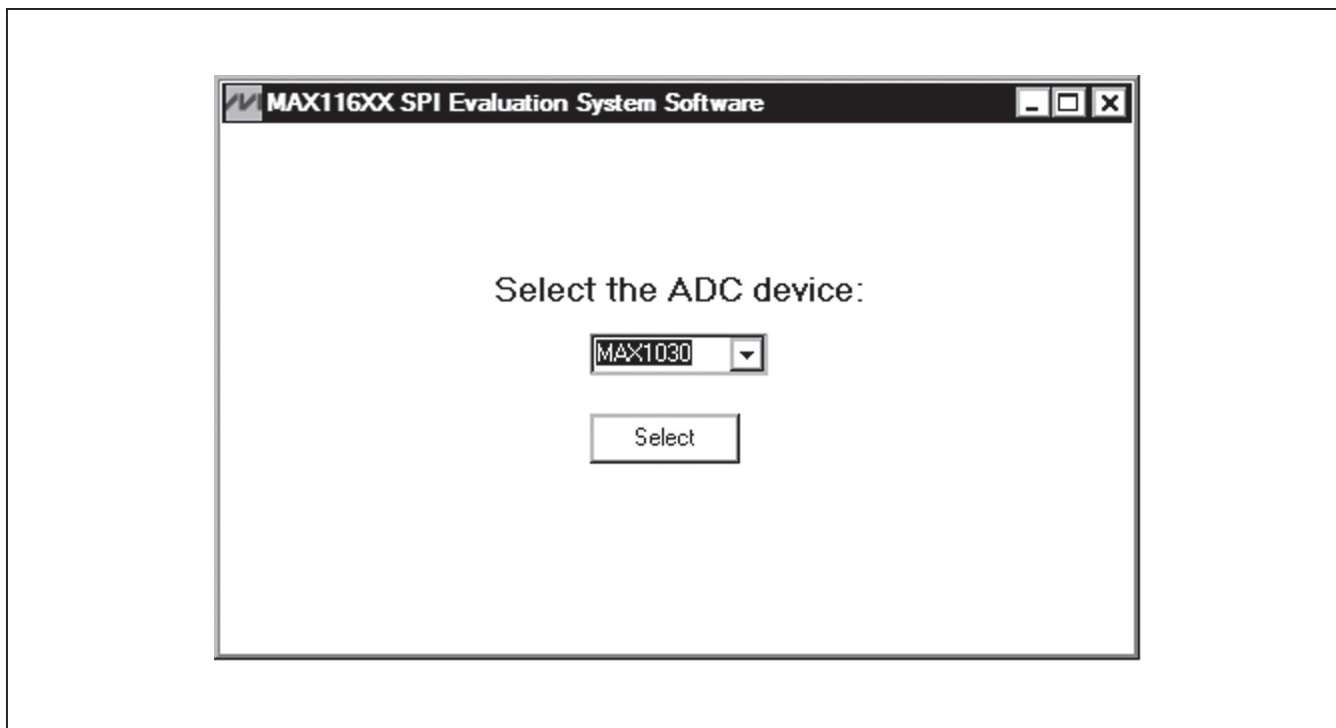

Figure 2. MAX116XX SPI EV System Software Device Selection Window
- 8) Start the MAX116XX SPI EV system software by opening its icon in the **Start | Programs** menu. The EV system software device selection window appears, as shown in Figure 2. Select the appropriate device from the **Select the ADC device** drop-down list. The EV system software main window appears, as shown in Figure 3.
The MAX116XX SPI EV system software supports the MAX1231/MAX11633/MAX11635 family of ADC devices. When the EV system software starts up, select the appropriate device from the **Select the ADC device** drop-down list shown in Figure 2. Press the **Select** button to bring up the main software window.